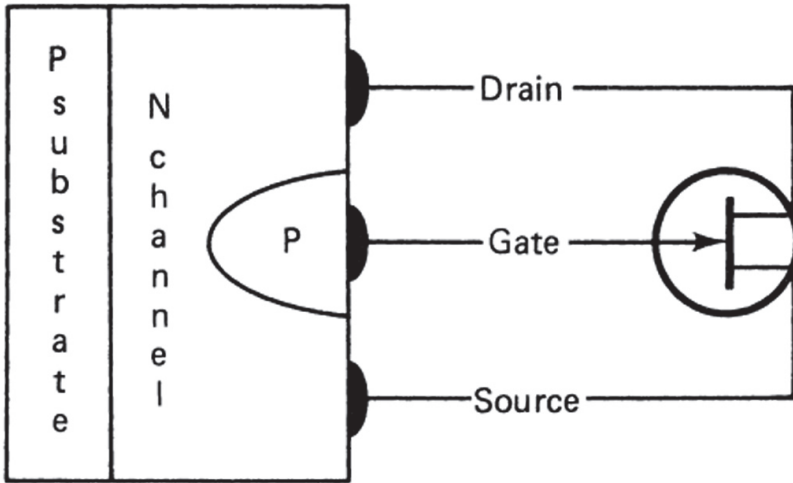
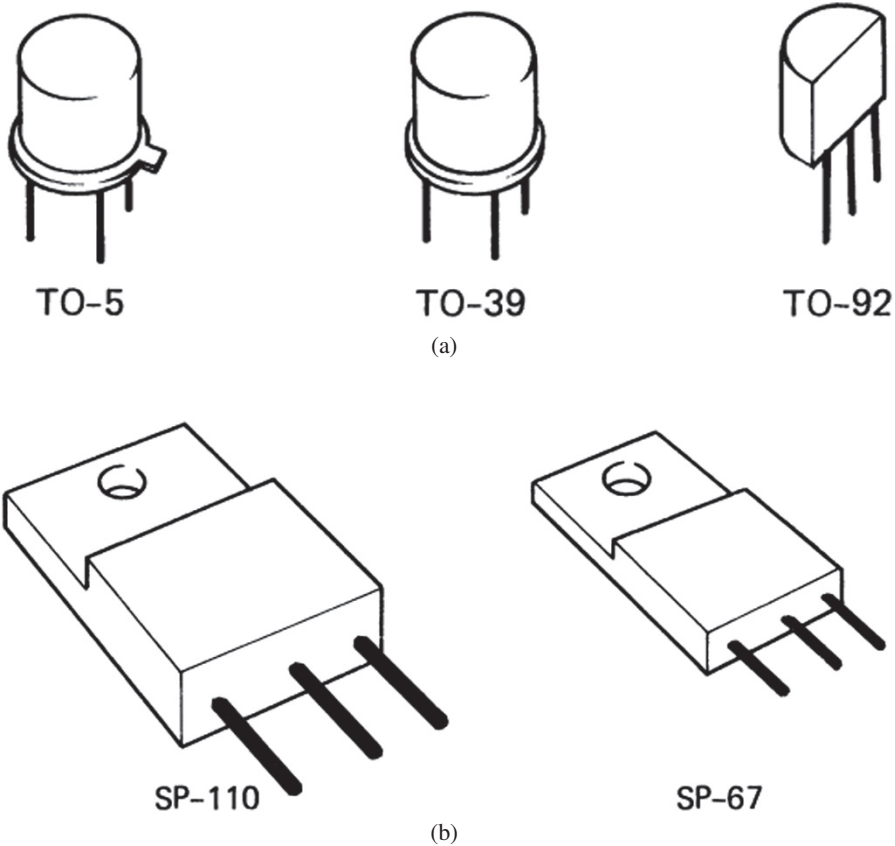

Figure 8.1 Basic JFET crystal structure and symbol.
Figure 8.2 JFET packages (Courtesy: Fairchild Semiconductor).
The operation of a **junction field-effect transistor (JFET)** is based on the conduction of current carriers through a single piece of semiconductor material called a **channel**. **Figure 8.1** shows a cross-sectional view and symbol of a basic JFET crystal that serves as the channel. Note that an additional piece of semiconductor material is diffused into the channel. This element is called the **gate**. The gate (G) surrounds the channel. The assembled device is housed in a package. The physical appearance of a JFET in its housing is very similar to that of a bipolar transistor (see **Figure 8.2**).